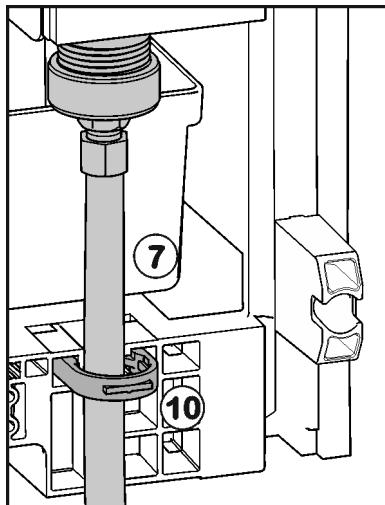

Fig. 19
- Affix the water supply Fig. 19 (7) to the housing, if necessary, using the locking element Fig. 19 (10). Before fitting into the cabinet: